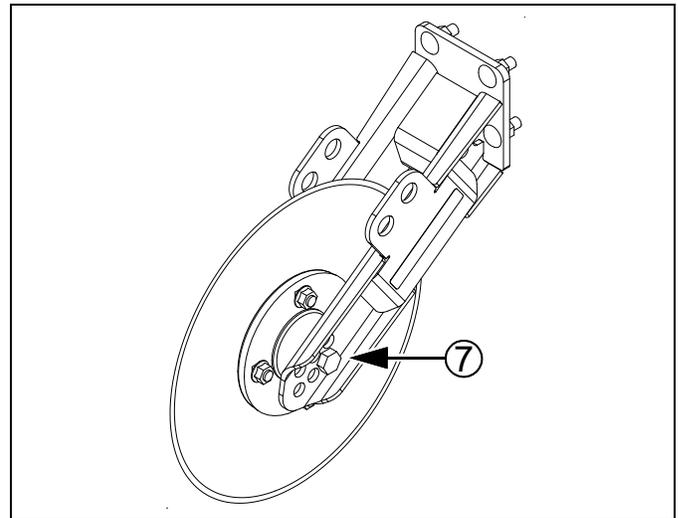
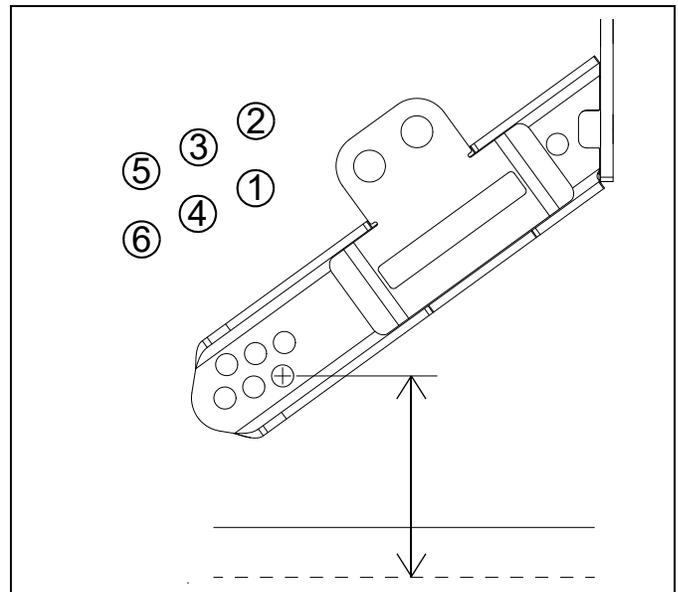

Figure 37
Figure 38
Refer to Figure 37 and Figure 38
4. Remove the $\frac{5}{8}$ -11 x 4 in bolt, lock washer and nut (7 in Figure 37).